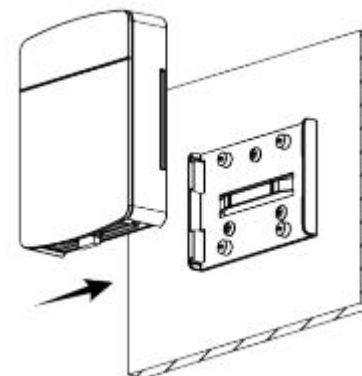

Figure 2-3
Step 3 Install the camera body into the backplate as shown in Figure 2-3.